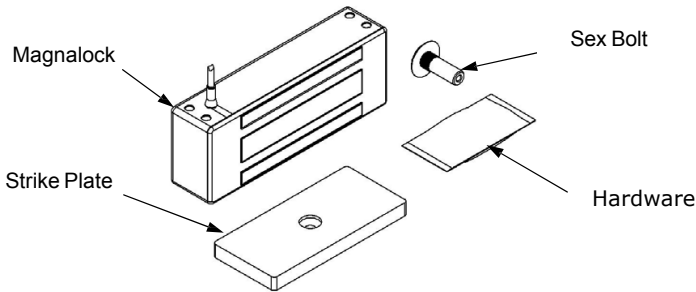

Figure 1. Magnalock Inventory
1. Upon unpacking this product, **PERFORM** an inventory to ensure that all of the required components and hardware have been included; this should include the items detailed in Figure 1, "Magnalock Inventory."